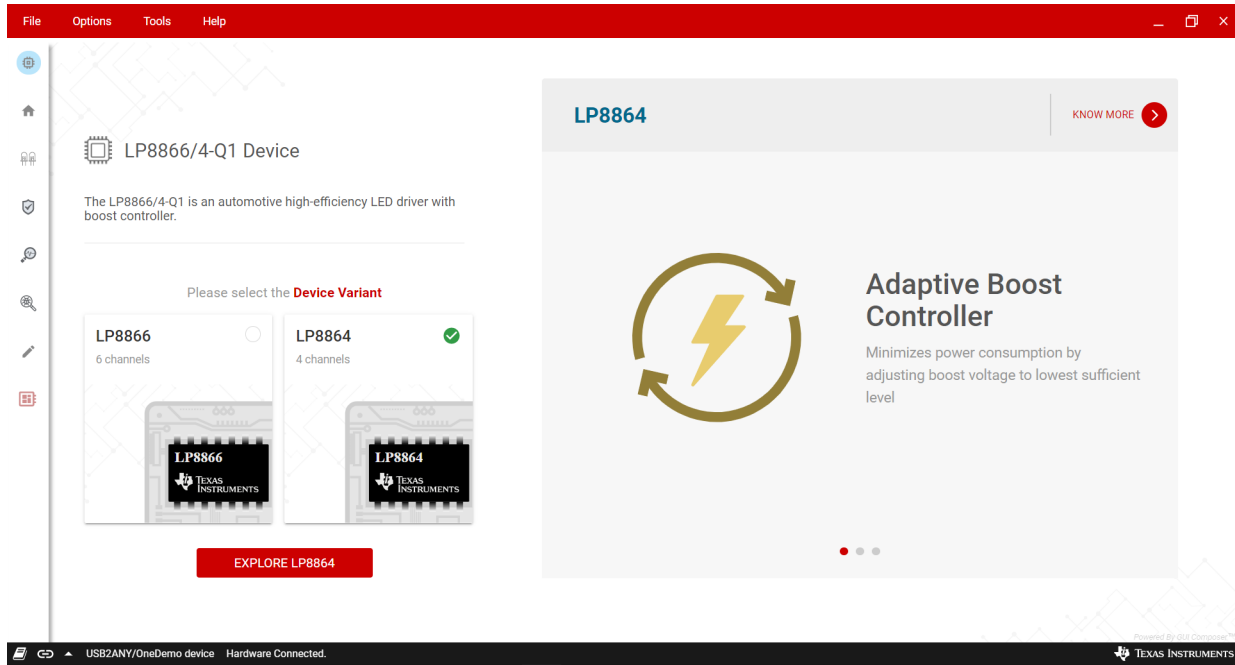
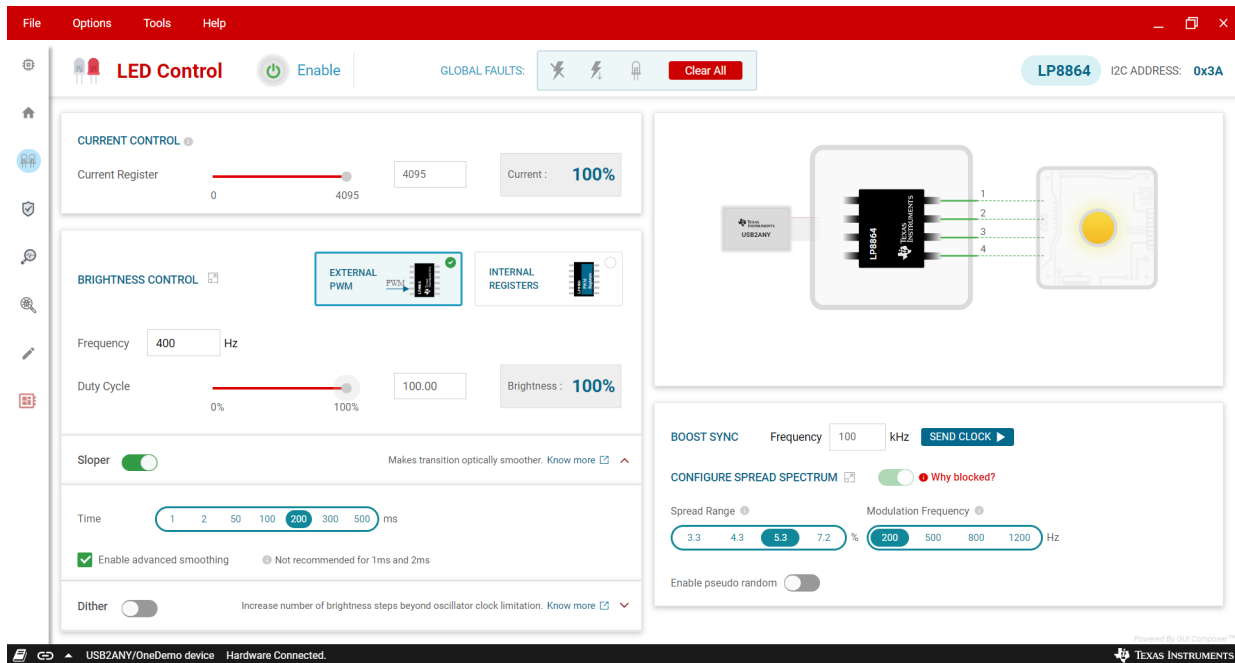

Figure 2-3. LP8866/4 Family GUI Landing Page
Figure 2-5. LP8864EVM LED Control Page
1. After the hardware is connected successfully, run the GUI software. Turn on the 12-V external power supply. Select the right device variant of the EVM, which is LP8864, as shown in Figure 2-3.
2. Check the connection status button on the bottom left corner of the GUI. The button should be like the one shown in Figure 2-3. There should be a *Hardware Connected* message on the status bar next to the button. If it shows *Hardware not Connected*, click the button to manually connect the hardware. This button can be used to connect or disconnect the GUI to the hardware during the evaluation. Besides the connection status button, the device should be enabled to be connected to the GUI. Ensure the *Enable* button on the LED Control Page (see Figure 2-5) is enabled.
4. Click the **START** button to go to the LED Control page (see Figure 2-5). On the LED Control page, the user can control all the register-based control functions of the device, like brightness control, current control, sloper control, dither control, boost synchronization configuration, and spread spectrum configuration.